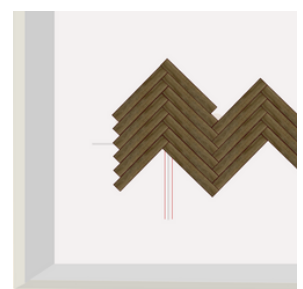

Fig. 5
- Cut and fit edge planks to follow the pattern and maintain 1/4" expansion gaps. **(Fig. 5)**